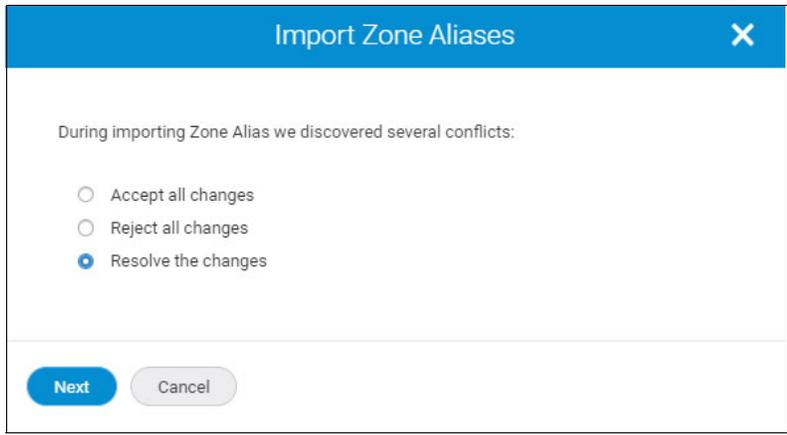

Figure 5-27 Import Zone Aliases
5. Click **Open** to import the zone aliases. The Import Zone Aliases window opens, as shown in Figure 5-27 on page 133.